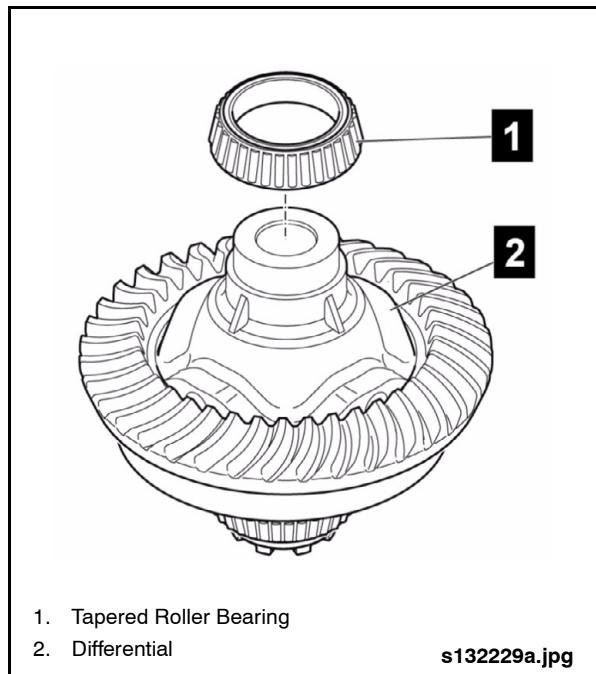

Fig. 2-69: Installing Tapered Roller Bearing on Differential Side
8. Use protective gloves and install tapered roller bearing onto differential bearing journal, ensuring bearing is fully seated. **See "Fig. 2-69: Installing Tapered Roller Bearing on Differential Side" on page 57.**